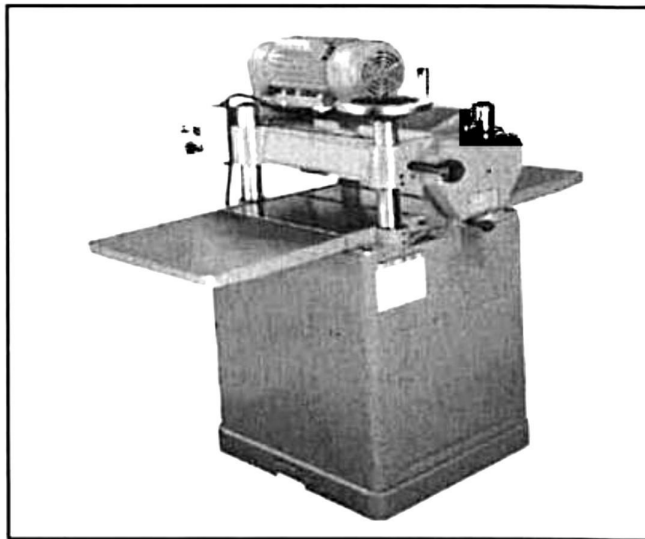

FIGURE 5.2
- 5.2 FIGURE 5.2 below shows a woodworking machine. Study the picture and answer the questions that follow.